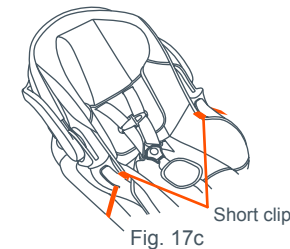

Fig. 17c
- When the infant car seat is locked firmly into place, **strap the single short clip over the infant car seat** through the seat belt slot on the infant car seat (Fig. 17c). **NOTE:** It is very important that the short clip is always tightly fastened around the infant car seat.